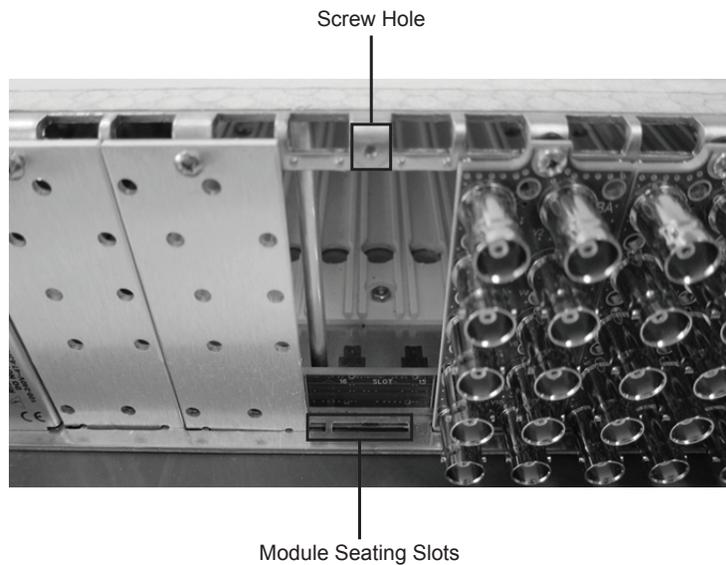

Figure 5 Rear Module Installation in an openGear Frame (ADA-8405-C not shown)
3. Install the bottom of the rear module in the **Module Seating Slot** at the base of the frame's back plane. (**Figure 5**)